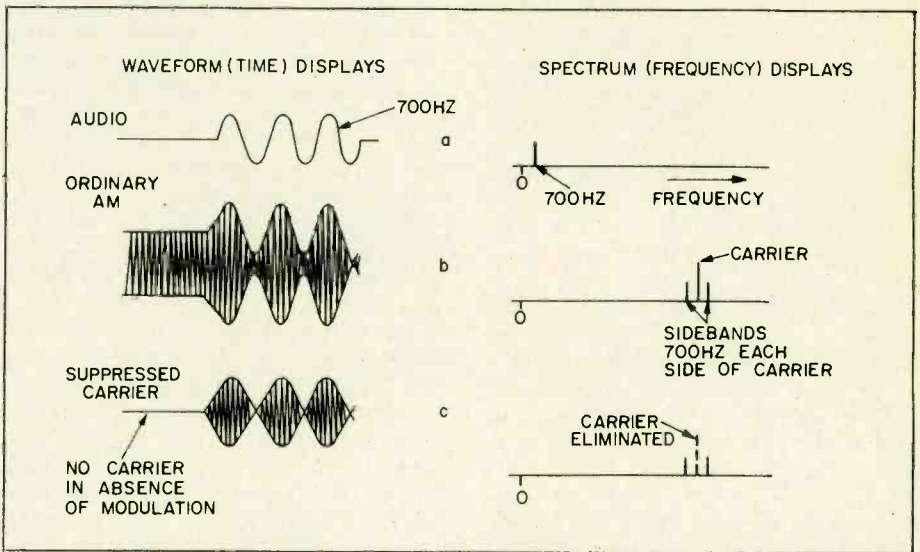
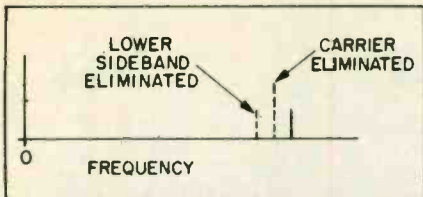

Fig. 8—Elimination of the carrier leaves the sidebands, which include the audio information. Carrier is reinserted at the receiver.
Fig. 9—Spectrum display of a transmitted signal modulated by a 700-Hz tone—lower sideband suppressed.
Figure 8 shows the result of eliminating the carrier, but keeping both sidebands.
This is called a *suppressed carrier system*. The most striking result of suppressing the carrier is seen in the waveform displays of Fig. 8. First we see that, in the absence of an audio signal, there is no carrier (Fig. 8). Second, we note that the envelope representing the original audio signal is somehow tangled up inside the waveform, in such a way that it can't be extracted by a simple "power-supply"—kind of detector (envelope detector) described in the Jan.-Feb. 1976 article on modulation.
The result of eliminating the carrier looks so unusual that we wish we could put it back. So that's exactly what we do. At the receiver, we insert an artificial carrier, carefully adjusted to the right frequency and strength, which restores the waveform to its more familiar appearance, (Fig. 8), and allows us to detect it with a conventional detector.
Single-Sideband—Sending Only the Necessities. If each sideband of a 100-watt transmitter provides only 25 watts, then eliminating the carrier cuts the total power from $100 + 25 + 25 = 150$ watts, down to $25 + 25 = 50$ watts. But, as we pointed out earlier, each of these two sidebands is a mirror image of the other; one of them can be eliminated without hurting the message a bit! Figure 8 shows the spectrum display of an SSB transmitter modulated by a 700-Hz tone. The dotted lines show where the suppressed carrier and the eliminated lower side band would have been.
* In case you're wondering how, in Fig. 8, we could say the sidebands at 100% modulation are *half* the carrier, while here we're saying they're *one-quarter*, remember that Fig. 8 shows relative *voltages*. Since power is proportional to the *square* of the voltage, and since *one-half* squared is *one-quarter*, then each sideband's *power* at 100% modulation is *one-quarter* of the carrier power.
Figure 9 tells this story. In Figure 10a, we see our familiar 700-Hz flute tone, and on the right of Figure 10b we see the SSB spectrum resulting from modulating an SSB transmitter with this tone. But on the left of Figure 10b we get our first surprise. True, we would expect no carrier, before the tone begins—we've seen this before, in Fig. 8. (the suppressed carrier case). But when our flutist begins to play, we get a